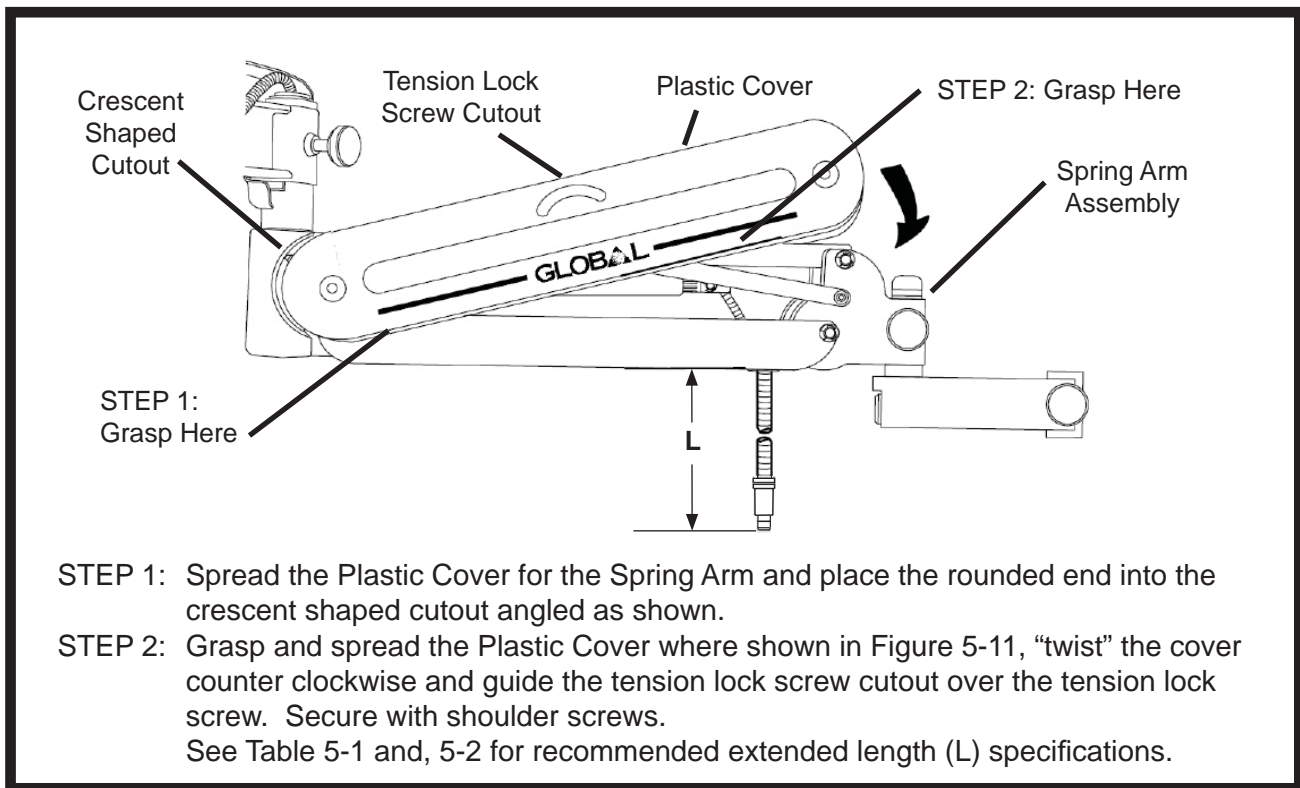

Figure 5-11. Installing Spring Arm Plastic Cover
***All dimensions are with the Spring Arm in the horizontal position and are measured from the bottom surface of the Spring Arm to the connector on the cable. See Figure 5-11. Overall lengths of the Fiberoptic Cables are shown below the extended lengths.**
2. The distal end (closest to the Horizontal Arm) of the cover should be installed first. Spread the sides of the cover and insert the rounded end of the cover into the crescent shaped cutout in the Spring Arm Assembly. See Figure 5-11.
4. Grasp and spread the cover where shown in Figure 5-11. "Twist" the cover counter-clockwise and guide the tension lock screw cutout over the tension lock screw. Once the screw is in the slot, the cover should float freely on the Spring Arm.
5. Install the four (4) shoulder screws with clear plastic snap washers through the holes in the cover making certain the shoulder of the screw is positioned correctly in each hole. Tighten securely with a 1/8" (3 mm) hex key.
6. Snap the four (4) black plastic caps over the four (4) shoulder screws and press firmly to snap in place. If the cap does not snap firmly into place, it may be necessary to grip the underside of the cover and pull outward on the cover near the shoulder screw while pressing firmly on the cap.